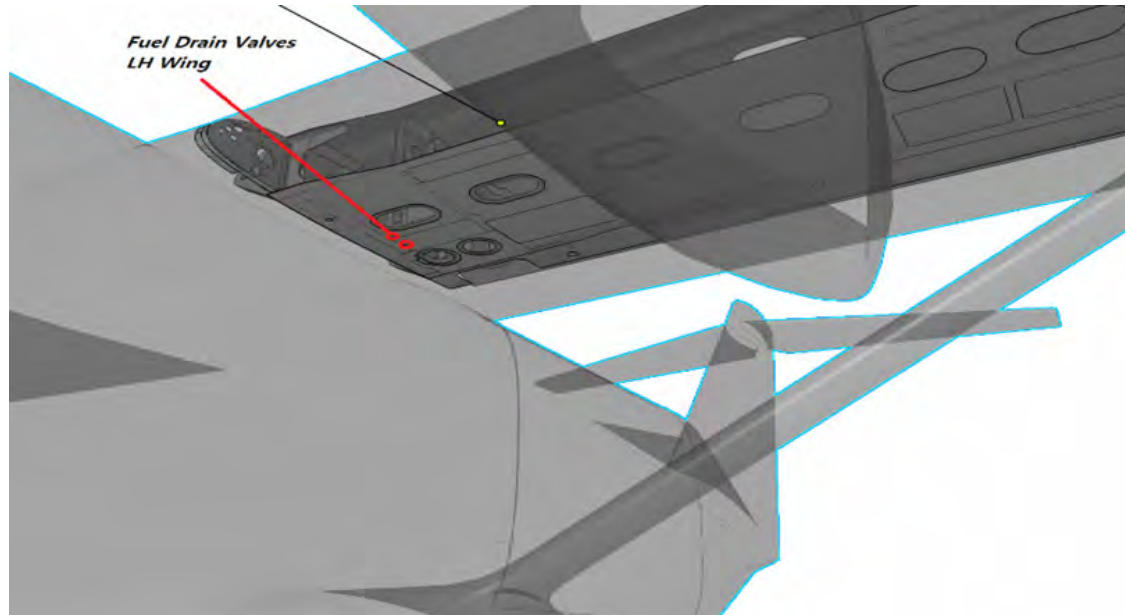

Figure 4
- (1) The total fuel capacity is 4,740 lbs. There are two separate fuel tanks (one vented integral tank in each wing formed by the front and rear spars). Flapper valves throughout the tank prevent the flow of fuel outboard during roll maneuvers. Each independent wing tank system includes an integral hopper tank. Each hopper tank contains a main ejector pump, an electric boost pump and a defuel valve.
- (2) Fuel drain valves are located on the lower skin of each wing with two per side (Figure 4 of this section) inboard of each engine.